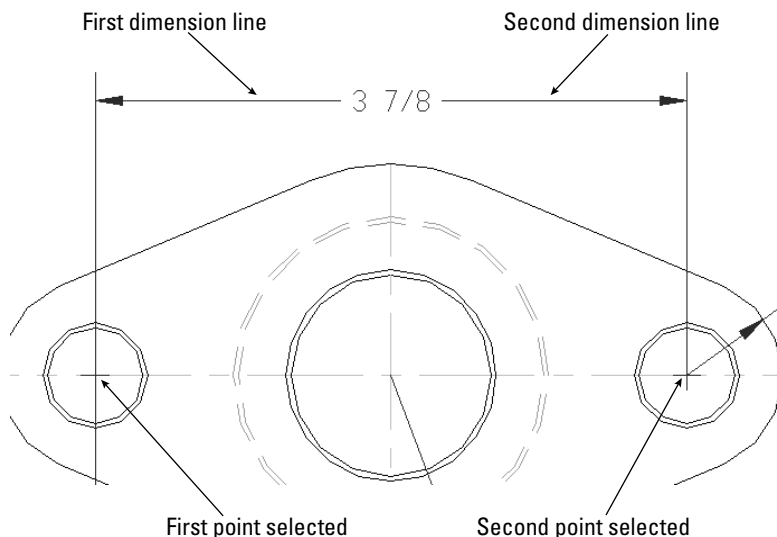

**Figure 15-5:** A typical mechanical dimension with text splitting two dimension lines.
In some dimension styles, the dimension text splits the dimension line into two parts, as shown in Figure 15-5. This creates two dimension lines. You can suppress — that is, turn off — the first or second dimension line (or both dimension lines) by checking the appropriate box (or boxes). The first line is nearest where you specified the first extension-line origin. (If you selected an object instead of specifying two extension-line origins, you may not be able to predict which dimension line is the first and which is the second. Experiment.) You would usually suppress dimension lines when they interfere with other dimensions or with objects in your drawing.
- ♦ **Centered:** Centers the text in the dimension line, breaking the dimension line into two. This is typical for mechanical drafting. You can see an example in Figure 15-5.